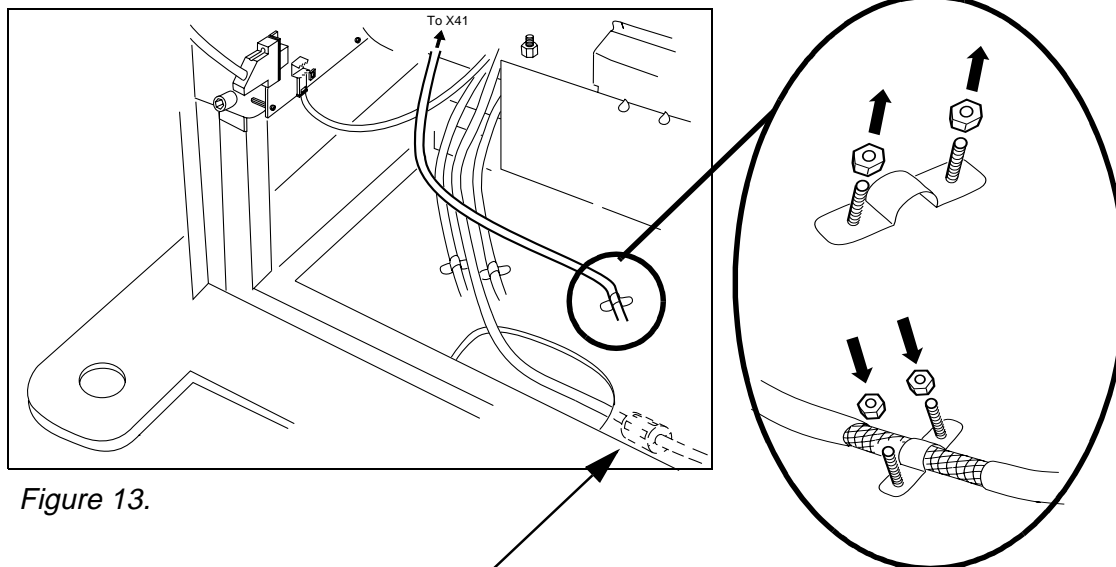

Figure 13.
- Clamp the cable to the generator floor or below the D700 p.c. board, see Figure 13.